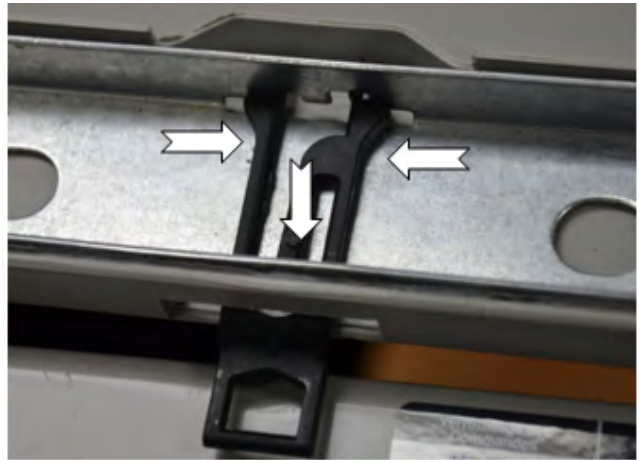

Figure 1
2. Depress the 2 outside bars and push down the center bar and slide out the latch, see figures 1,2 and 3.